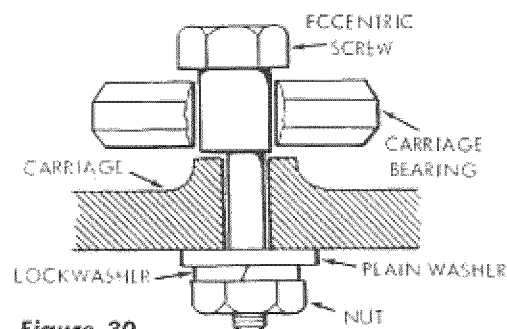
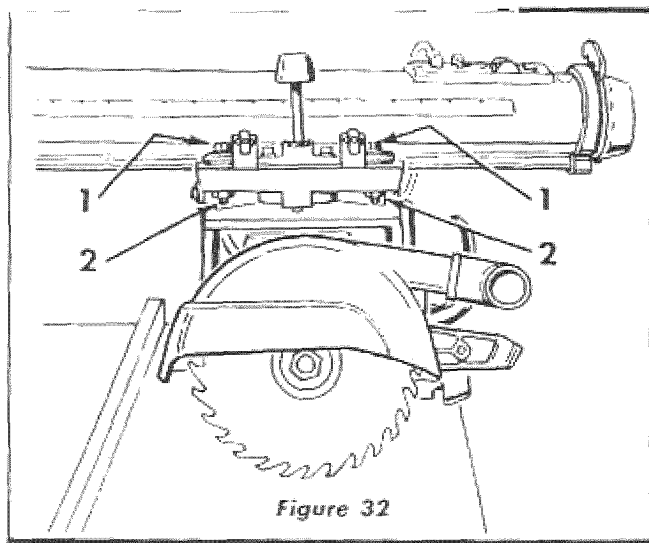

Figure 30
Figure 32
To test for looseness in carriage ball bearings (between bearings and tracks in radial arm), lock yoke clamp handle, grasp the motor and carriage assembly firmly and apply a firm racking motion. If looseness exists, the two bearings on left-hand side of radial arm must be adjusted. The two bearings on right-hand side of arm are attached to the carriage with regular hex-head screws and are not adjustable. The two bearings on left-hand side of arm are attached to carriage with eccentric screws. (See figure 30.)
2. Loosen nuts (2, figure 32) just enough to permit eccentrics to turn. (See figure 30.)
3. Turn adjusting screws (1, figure 32) a partial turn left or right as required to take up looseness.
4. Hold head of screw (1, figure 32) in position established in preceding step and tighten nut (2) on underside of carriage.